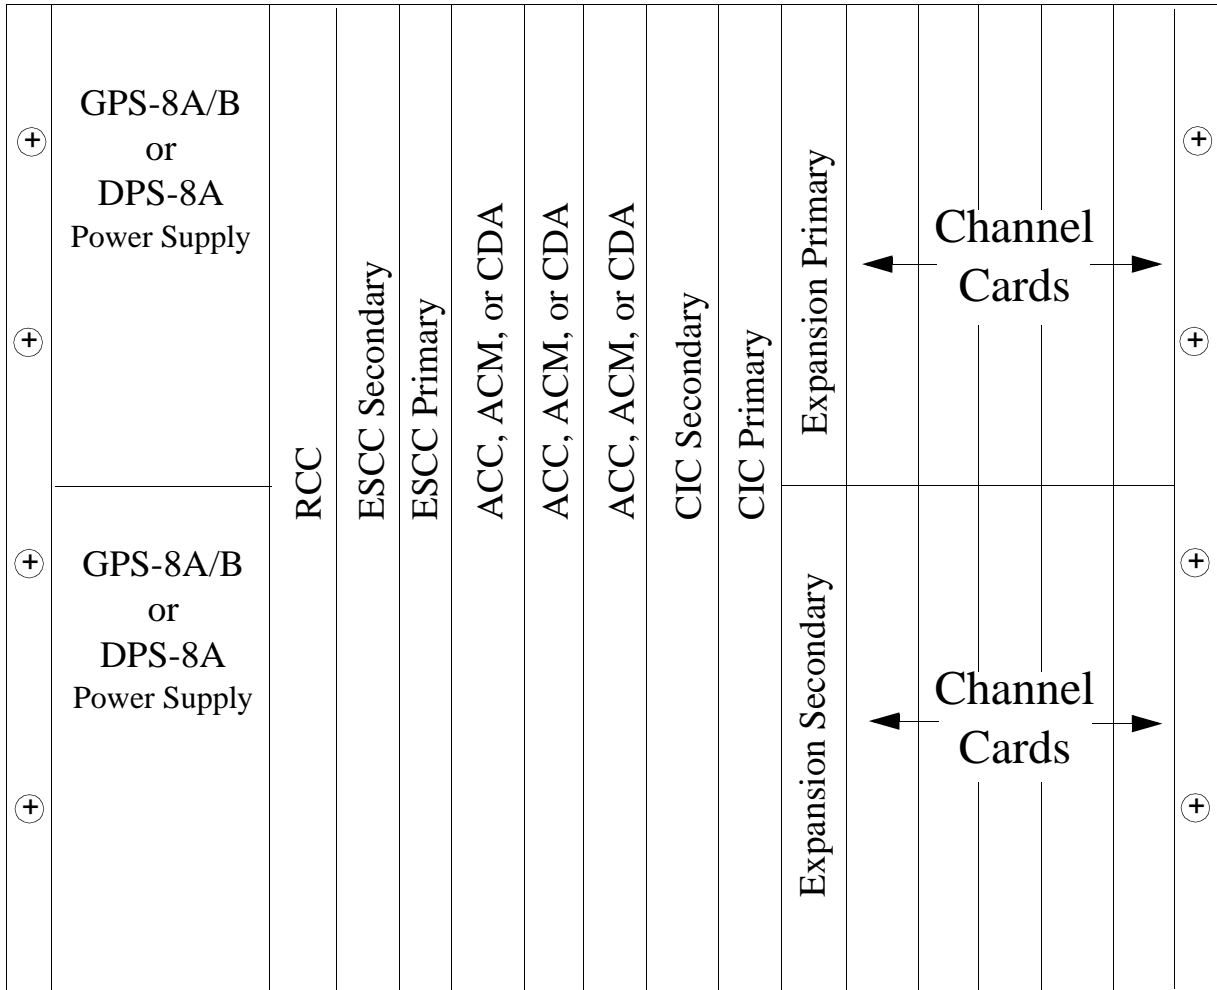

Figure C-1 TMSM Main Shelf Module locations
(1) Each module is in its proper slot in the TMSC shelf. The correct locations are given in your Network Documentation Package. Module locations for a completely filled redundant node are illustrated in Figure C-1. (In a nonredundant system, each slot marked "SEC." on the diagram has a blank filler panel). Check that Data Channel and Voice Channel cards are in the correct channel slots.
(2) The correct aggregate interface piggybacks or interface cards are installed on the Aggregate Control Cards. Table 1-4 in Chapter 1 lists the different interface piggyback cards.